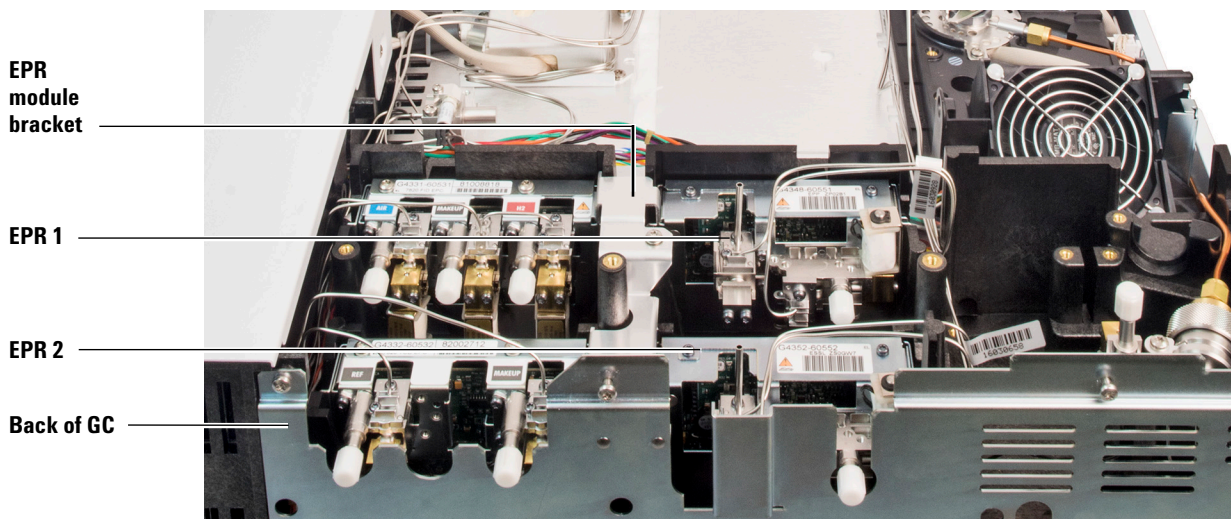

Figure 9 EPR module locations (shown with EPR modules installed)
- 1 Remove the EPR module bracket adjacent to the inlet EPR module by loosening the captive screw and lifting the bracket off the GC. (See Figure 9.)